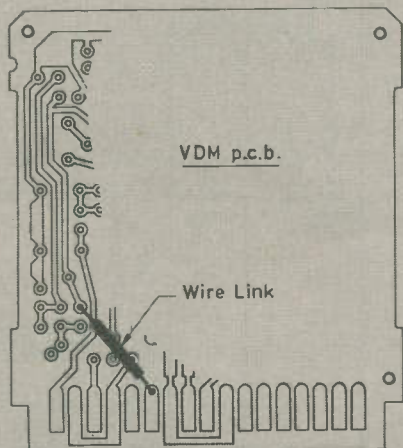

Fig. 1. VDM p.c.b. showing the wire link required to bring the video output signal out to pin 12
1. The supplied VDM on the tuner board should have an internal wire link to bring the video output signal to pin 12. The necessary link is shown in Fig. 1.